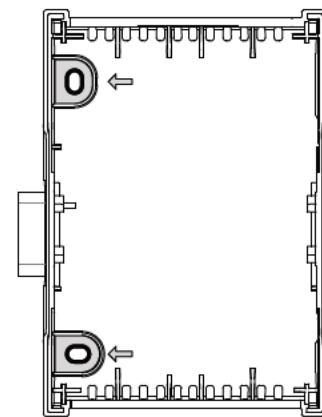

Figure 10: Back plate's Mounting Holes
3. Once the front assembly has been removed, use the back plate's mounting holes to mark the location of any holes that need to be drilled as shown in Figure 10.